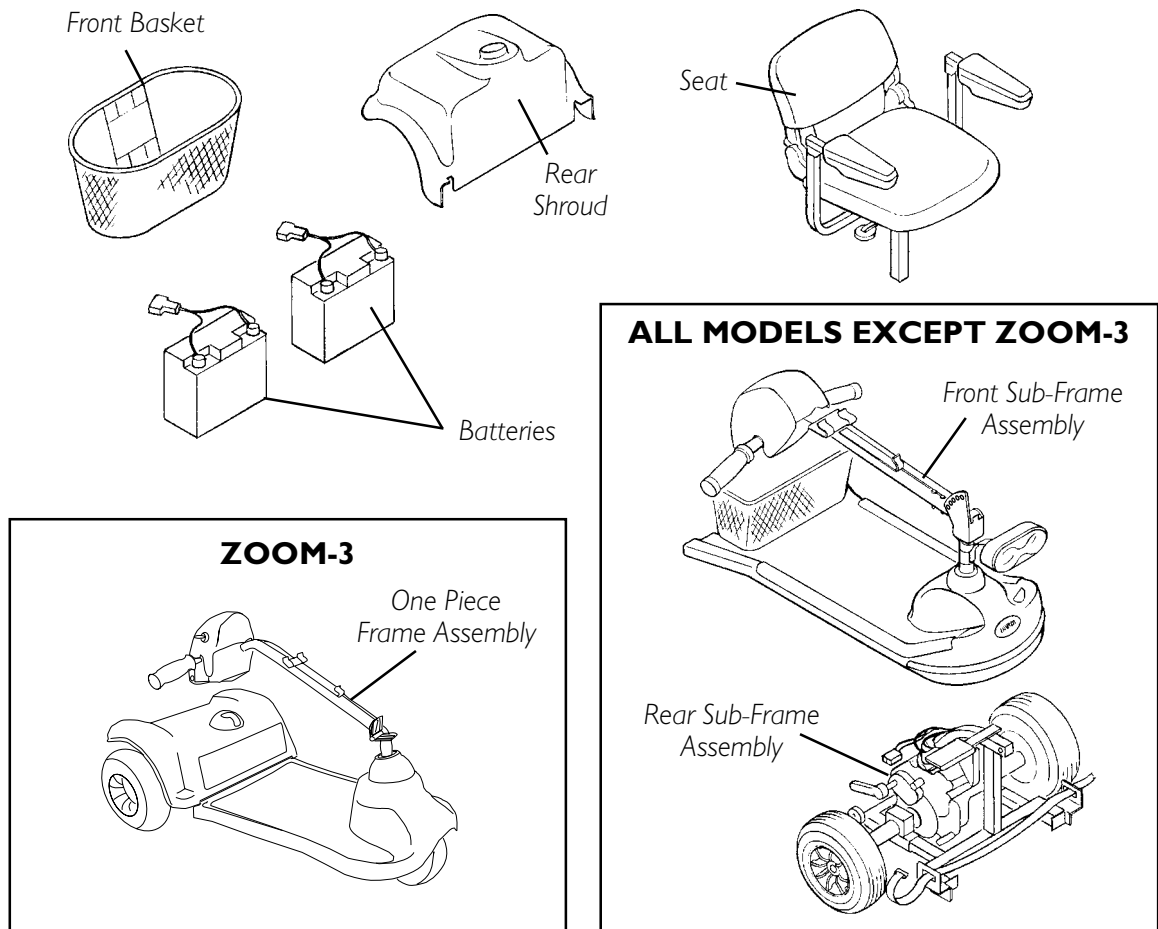

FIGURE 2 - TRANSPORTING THE SCOOTER
9. Pull retaining pin that secures the rear frame and front frame assemblies together (FIGURE 2).
10. Separate front frame assembly from the rear frame assembly (FIGURE 2).